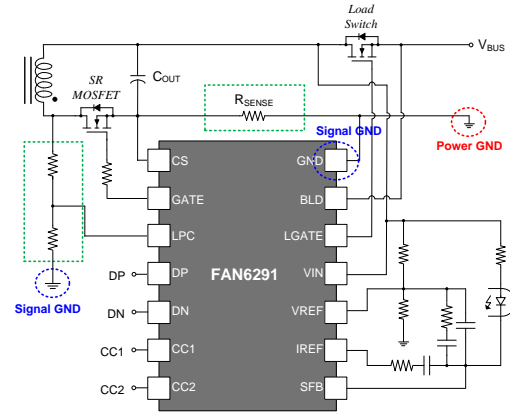

Figure 32 Power and Signal Ground on the Secondary-Side
- The main power flows through Q_2 , C_{OUT1} , C_{OUT2} and R_{CS} . This power path should be separated with signal grounds which are connected to FAN6291Q. In addition, it is recommended that power ground is directly connected to Y-cap. Refer to Figure 32.